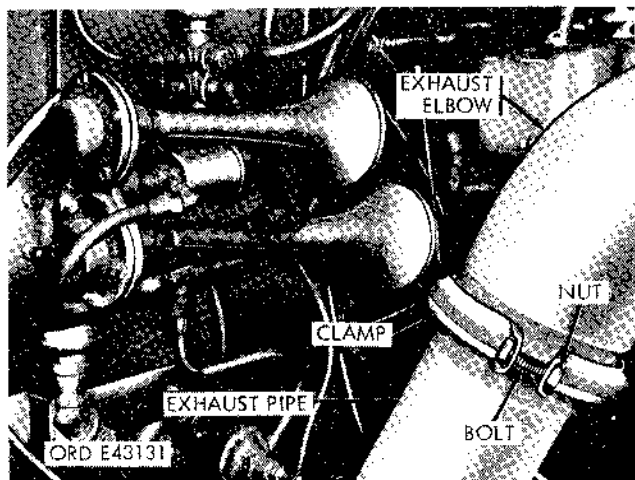
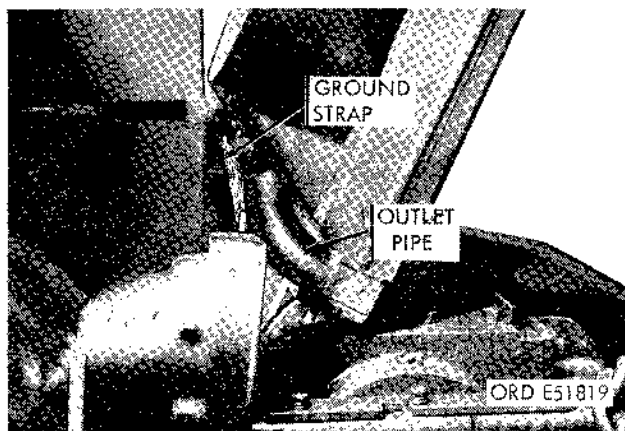

Figure 2-116. Removing front exhaust elbow clamp—diesel models.
Figure 2-117. Removing front exhaust pipe-multifuel models.
(1) On diesel models remove the nut and bolt securing the clamp around the flange of the front exhaust pipe and exhaust elbow (fig. 2-116). (On multifuel models, remove the three safety nuts, lockwashers, and screws securing the exhaust pipe flange to the exhaust elbow and bracket (fig. 2-117).